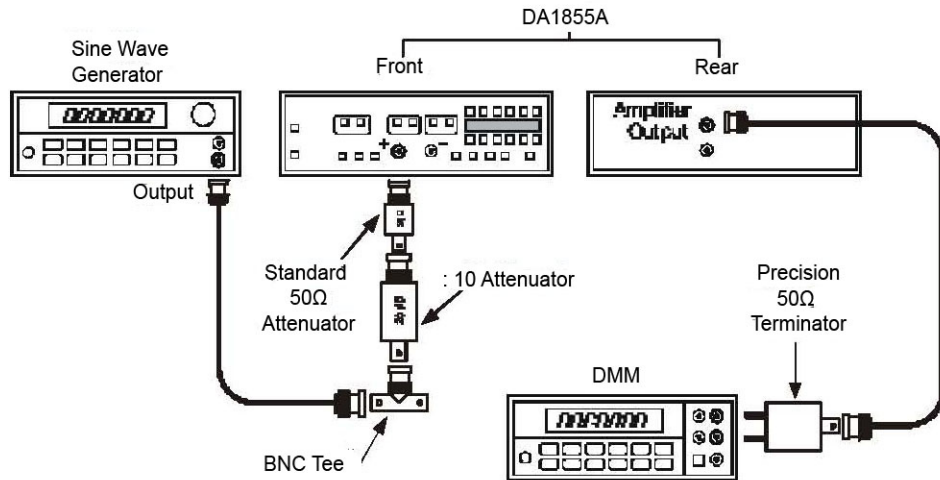

Figure 13, X10 Gain Accuracy Setup
- t. Insert the precision 50 Ω termination between the other end of this cable and the input of the DMM. See Figure 13.